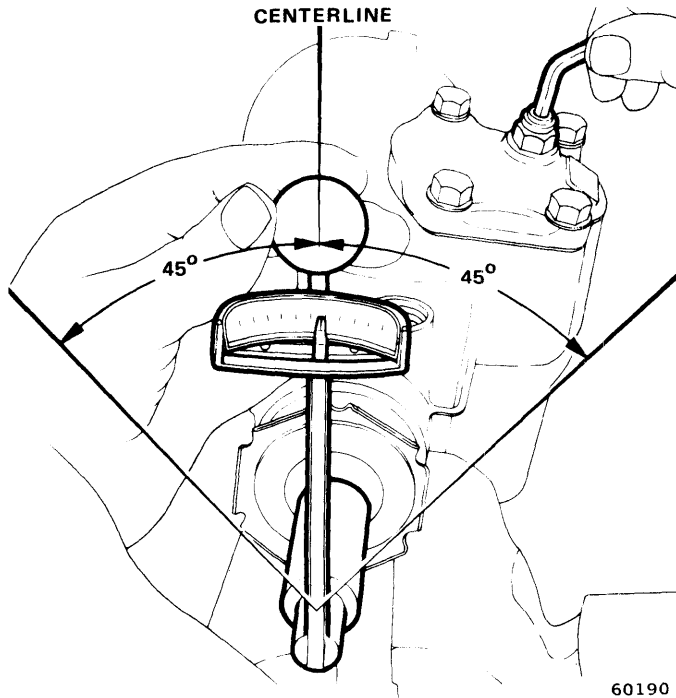

Fig. 11-95 Measuring Pitman Shaft Overcenter Drag Torque
(1) Turn pitman shaft adjuster screw counterclockwise until screw is fully extended, then turn screw back 1/2 turn clockwise.
(2) Rotate stub shaft from stop-to-stop and count total number of turns.
(3) Starting from either stop, turn stub shaft back 1/2 total number of turns. This is gear center.
(4) Install 50 inch-pound torque wrench and deep socket on stub shaft. Place wrench in vertical position to take reading (fig. 11-95).
(5) Rotate torque wrench 45 degrees each side of center and record highest drag torque measured on or near center (fig. 11-95).